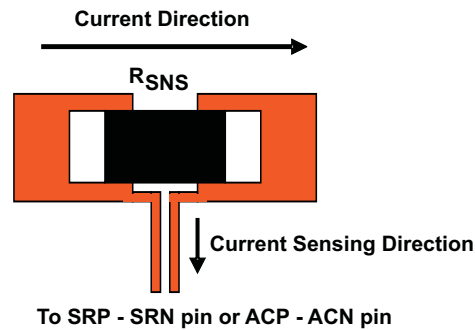

Figure 22. Sensing Resistor PCB Layout
4. The charging current sensing resistor should be placed right next to the inductor output. Route the sense leads connected across the sensing resistor back to the IC in same layer, close to each other (minimize loop area) and do not route the sense leads through a high-current path (see Figure 22 for Kelvin connection for best current accuracy). Place decoupling capacitor on these traces next to the IC.